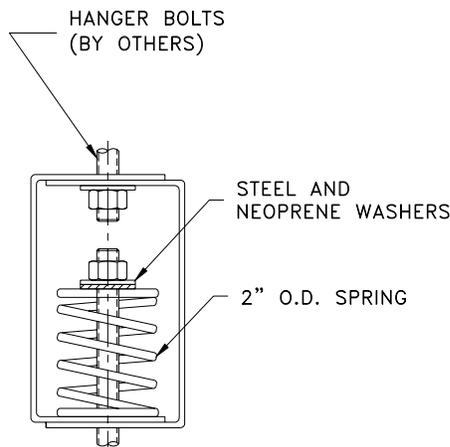

Fig. 4 – Spring Hanging Vibration Isolators (In-line fans - Typical)
Spring Hanging Vibration Isolators (Refer to Fig. 4)
1. Install the spring hanger as shown in Fig. 4.
3. When supporting the fan, not more than (3) complete turns should be made on the adjusting nut for each hanger at one time. Begin at one support point and progress around the fan compressing each spring in turn. This will tend to compress all springs uniformly and eliminate overloading of individual hangers.